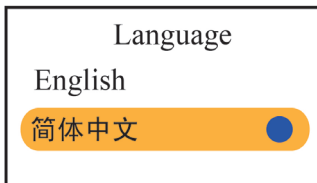

Figure 4.10D Language setup
- Language: This oximeter provides the display with two languages: English and Simplified Chinese, the factory default is "English", as shown in figure 4.10D.